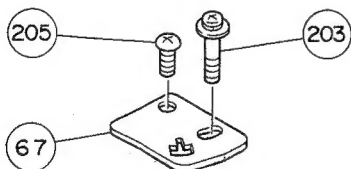

Figure 9
1. Unsolder the five lead-wires on Phono PWB Assy (67) coming from tonearm.
2. Remove the Phono PWB Assy which is mounted to the Bracket K (47) by two Screws, (203) and (205) (Fig. 9).